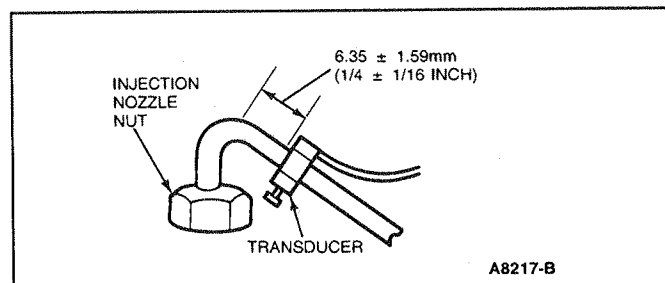

Figure 15 Pressure Transducer Attachment
2. Attach the pressure transducer to the No. 1 injector line (Figure 15) at the injector. Be sure the injector line is clean and free of paint where transducer is attached. Tighten the thumbscrew on the transducer finger-tight when attaching to the injector line.